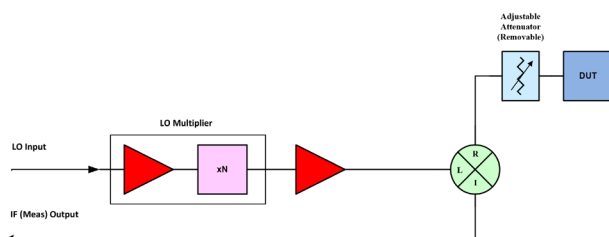

Fig. 3 - RX Extender
A Receive-Only (RX) frequency extender is a single-channel unit that only detects the received signal (Fig. 3). When TX/RX and RX frequency extenders are combined, the resulting test system is capable of measuring S11 and S21 (Fig. 1c). The test system corrects for Source and Load mismatch errors. Measurements of S22 and S12 require reversing the orientation of the DUT. For maximum test system capability, the TX/RX unit should be equipped with increased test signal power.